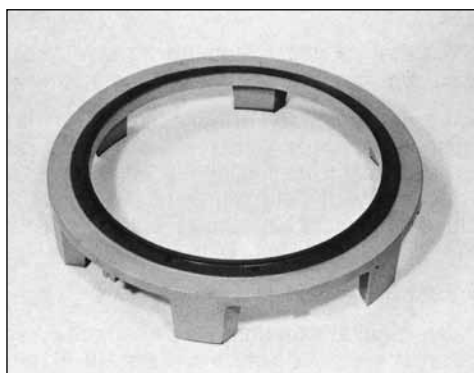

Figure 6-53
4. Inspect the bracket or adapter for stripped threads, cracks, and burred or rough mating surfaces (Figure 6-53 and 6-54).